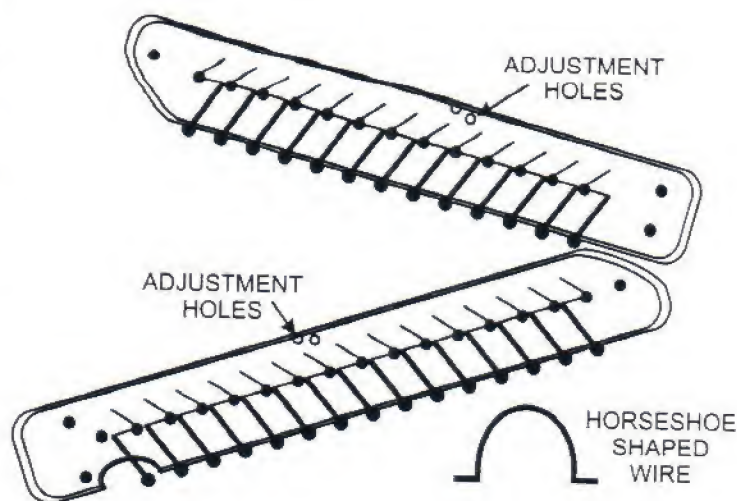

Fig 16. Staircases
3. Cut a piece of wire about 1-1/2 inches long from a thin coat hanger or other stiff wire. Bend it in a horseshoe "with ears" like the illustration in fig 16.